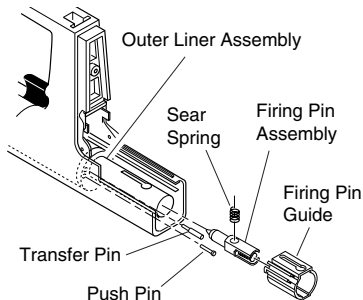
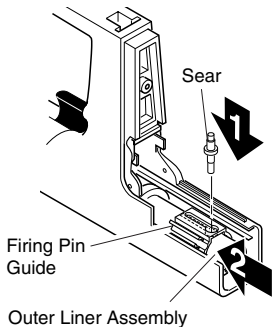

Figure 18 - Replacing Firing Pin Guide, Firing Pin Assembly, Spring, Transfer Pin, and Push Pin
Figure 19 - Replacing Sear
1. Insert transfer pin and push pin into outer liner assembly (see Figure 18).
2. Place sear spring into firing pin assembly. Slide firing pin assembly into outer liner assembly (see Figure 18). Slide the firing pin guide onto the outer liner assembly. Align the holes in the firing pin guide, the outer liner assembly, and firing pin assembly so that the sear can pass easily through all three (see Figure 19).